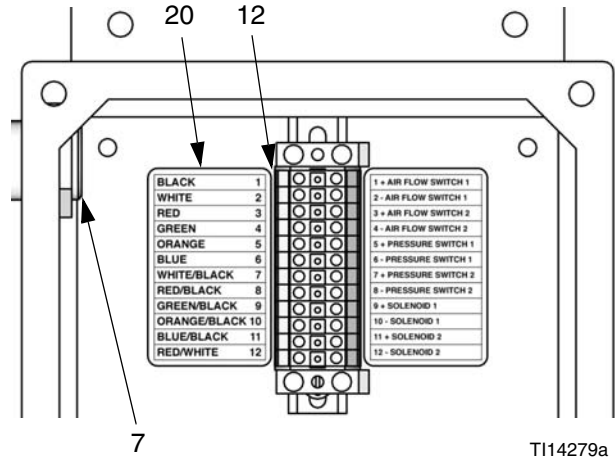

FIG. 2. Connect Cable to Terminal Strip
2. The cable (23) has bare wires at both ends. Thread the shortest end (4 in. [102 mm]) into the enclosure through the strain relief bushing (7). See FIG. 2.
3. Connect the cable wires to the left side of the terminal strip (12), as indicated by the label (20). See FIG. 2 and Table 1.